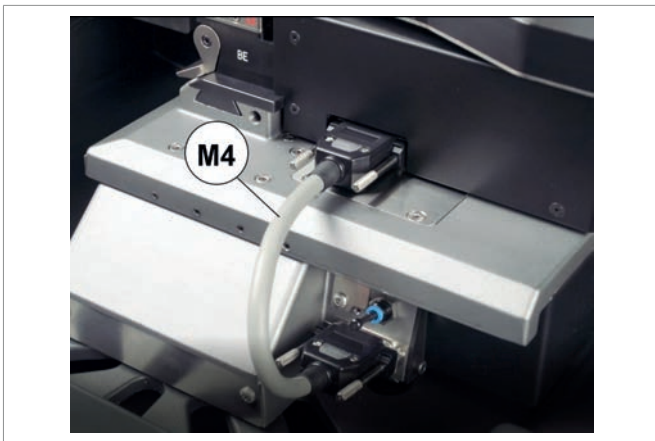

Fig. 27
- 3) Connect the clamp to the machine with the serial cable (M4) (Fig. 27).